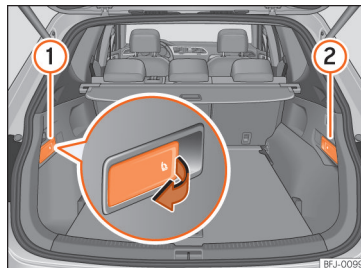

Fig. 102 In the luggage compartment: levers to unlock the rear backrest.
- Pull the remote release lever of the left >>> Fig. 102 ① or right ② parts of the backrest in the direction of the arrow. The released part of the rear seat backrest is folded automatically down and forwards.